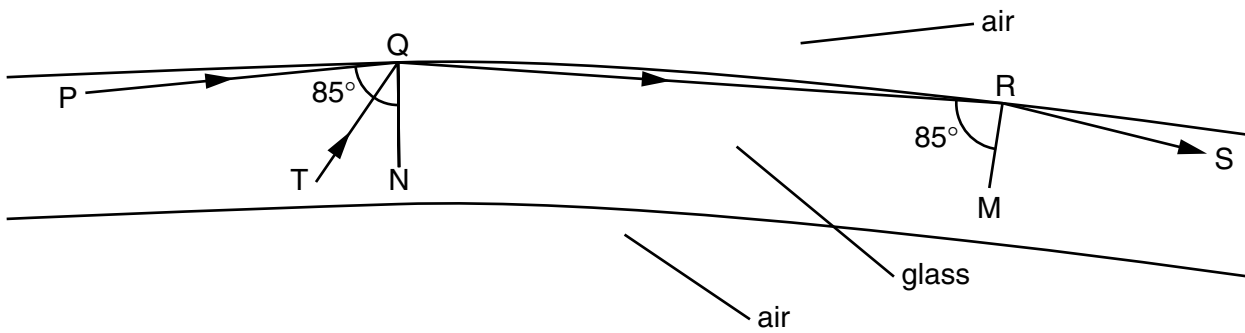

Fig. 3.1
- 3 Fig. 3.1 shows a ray of light, PQRS, passing along a simple optical fibre.